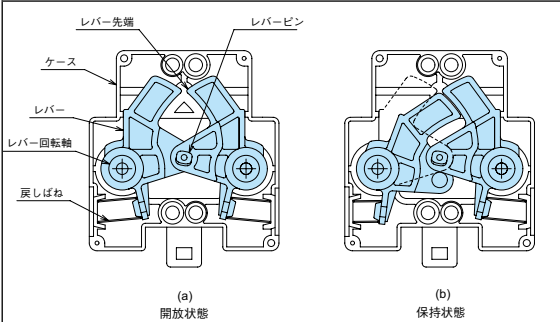
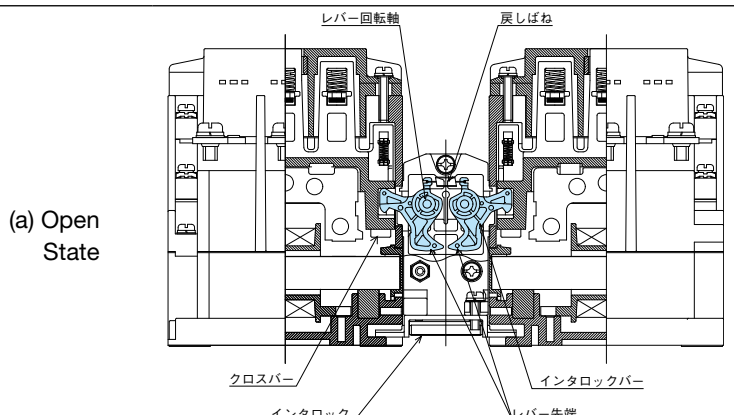

Fig. 2. Interlock Internal Structure (T10 to T80)
Fig. 3. Structural and Operational Diagram (T100, N125 to N400)
(2) Closed State (Fig. 2(b) and Fig. 3(b))